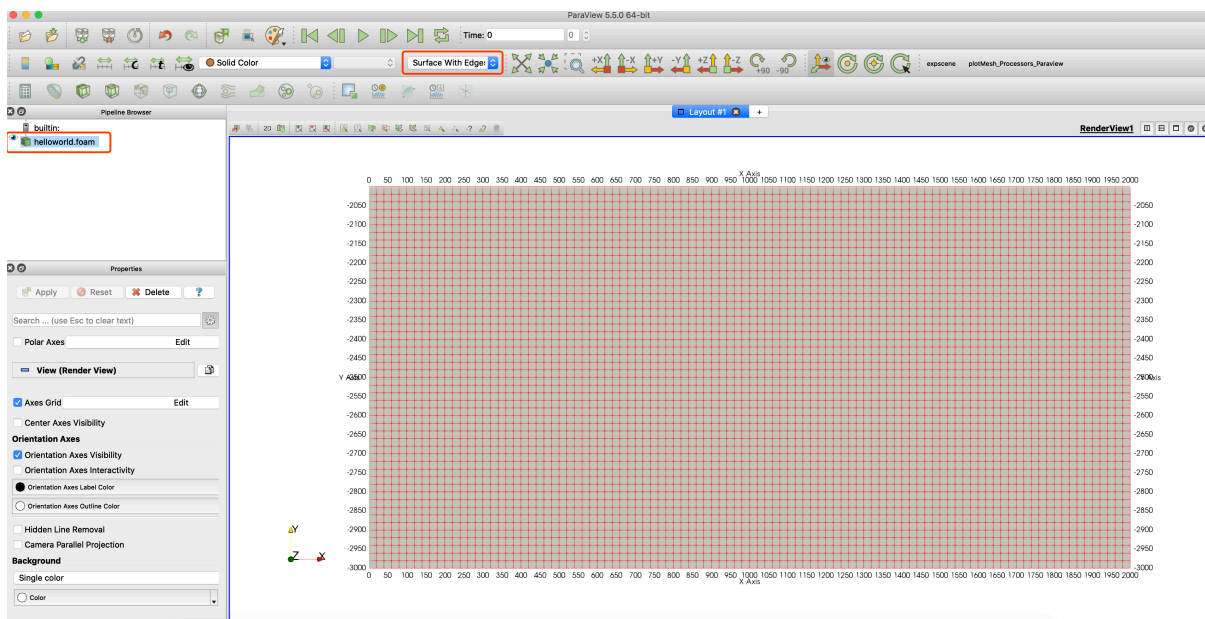

Fig. 5.2: The screenshot of 2D box mesh in ParaView.
**Note:** After step 2, the mesh is basically generated and we can display using `paraFoam` utility default or using ParaView for Docker user. The mesh result is shown in Fig. 5.2.